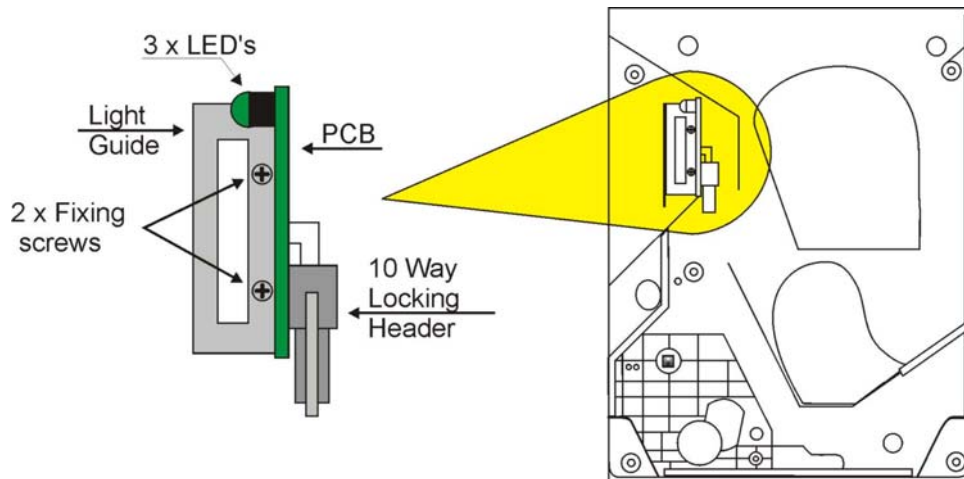

Figure 8: Exit window position
2. Unscrew & remove the 2 fixing screws. Figure 8.